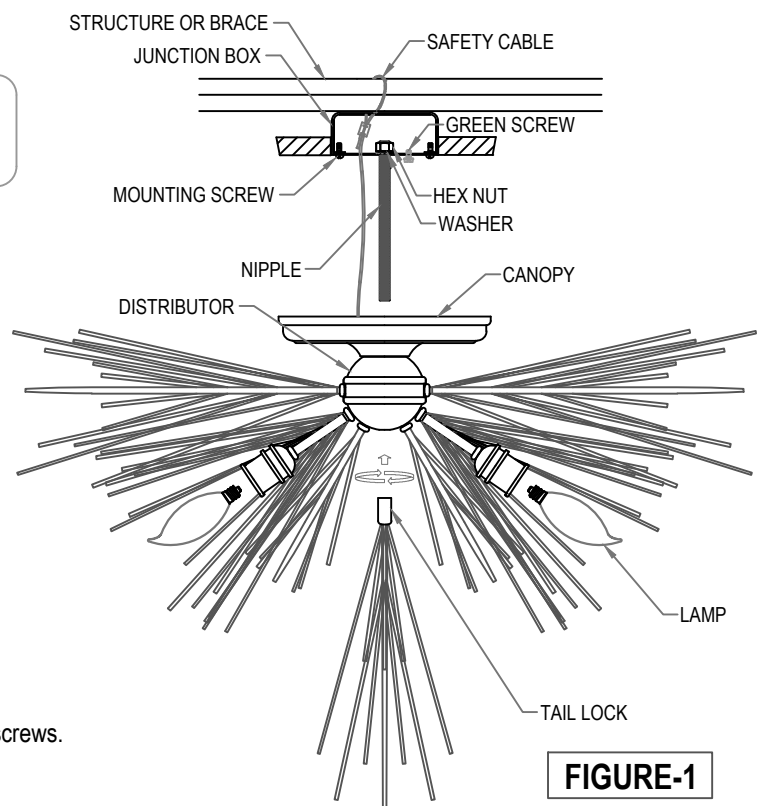

FIGURE-1
1. Attach the **SAFETY CABLE** to the building structure or brace (See figure-1).
6. Attach the **SAFETY CABLE** to the fixture (See figure-1).